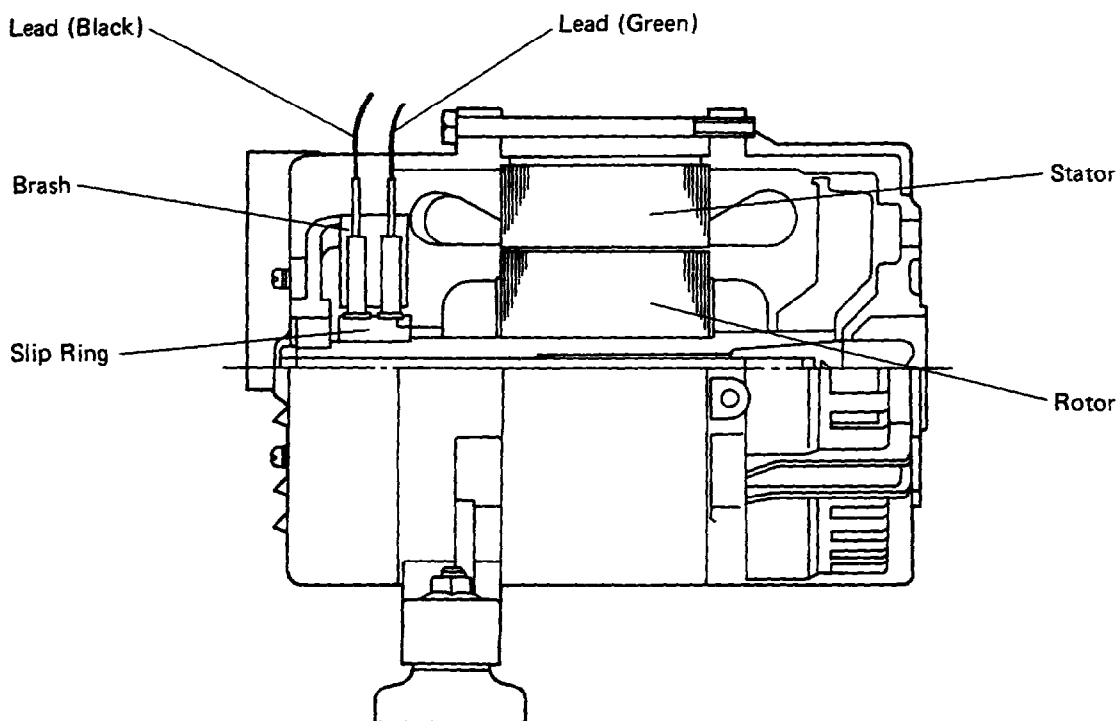

Fig. 9-4-24
- (3) Insert the connecting terminals of the brush holder, as shown in Fig. 9-4-24.